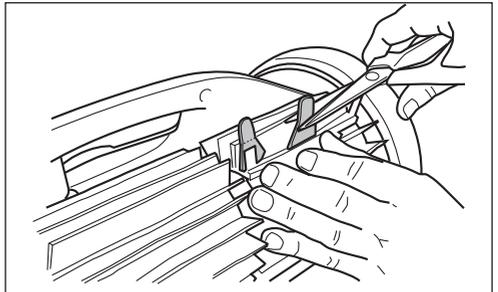

Figure 22. Cut Tabs
5. Use a pair of scissors to cut the tabs 3/4 inch from the heel so that they are no higher than the cleaning blade. See Figure 22.